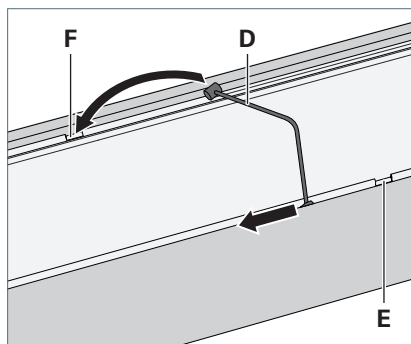

Fig. 3: Hanging wire rope into luminaire.
- ▶ Insert one end of the wire rope **D** into the opening **E** on the top of the luminaire, see Fig. 3.